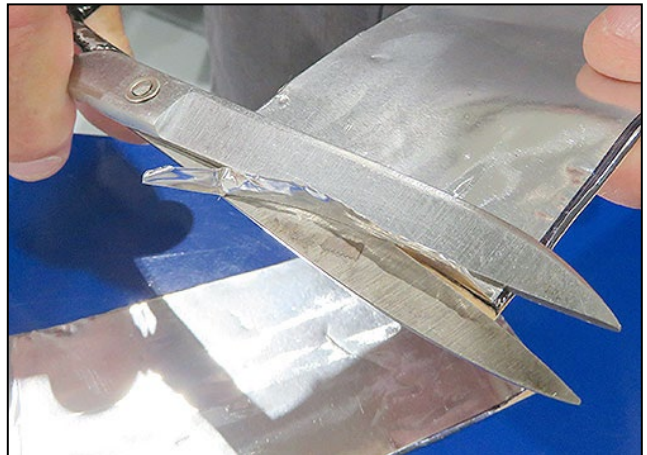

Figure 4
- Figure 4 shows foil being trimmed.